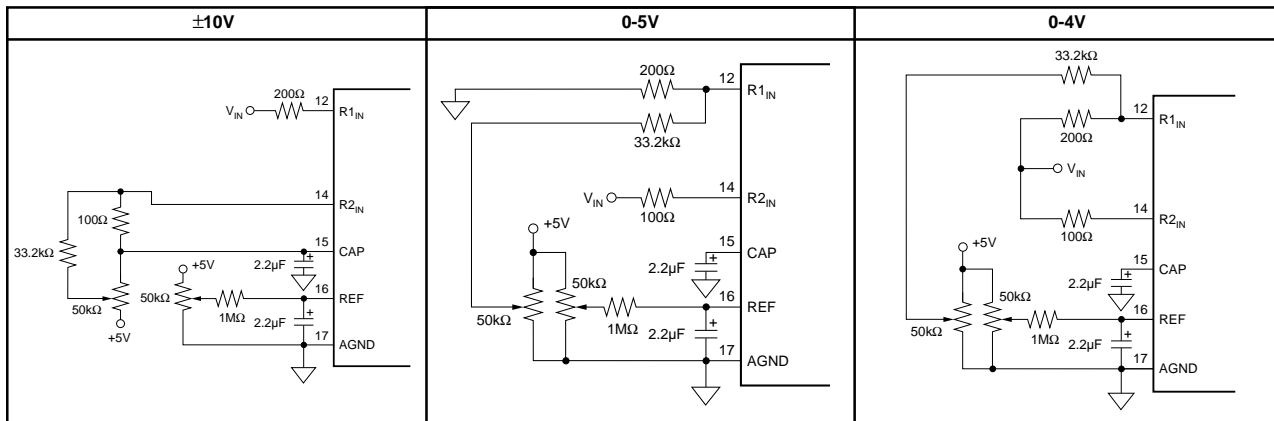
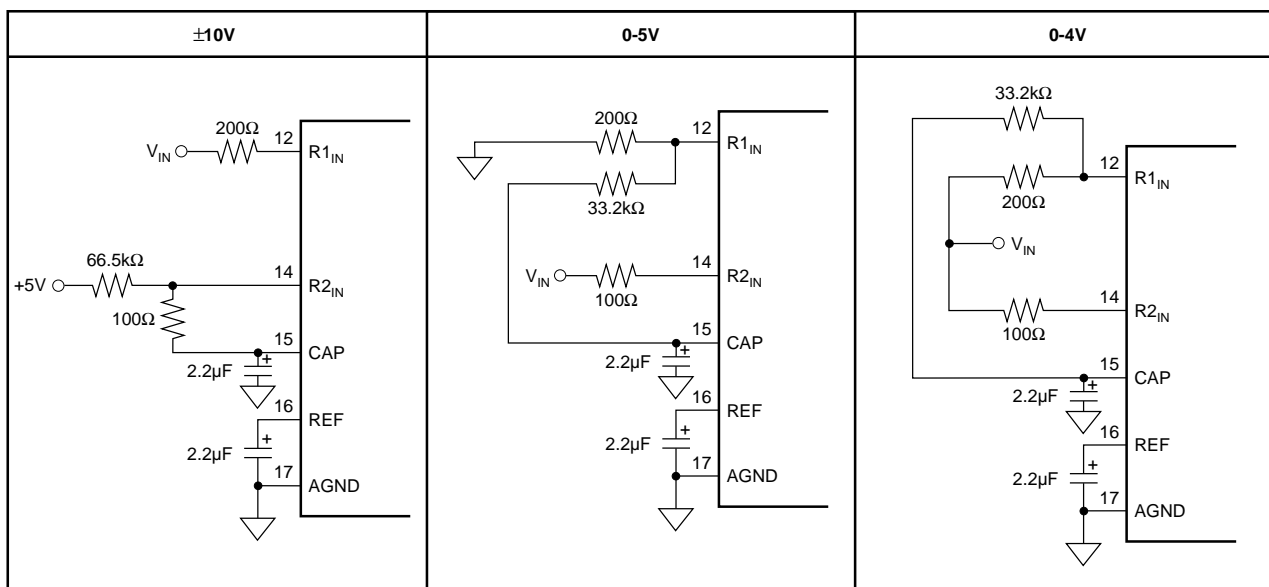
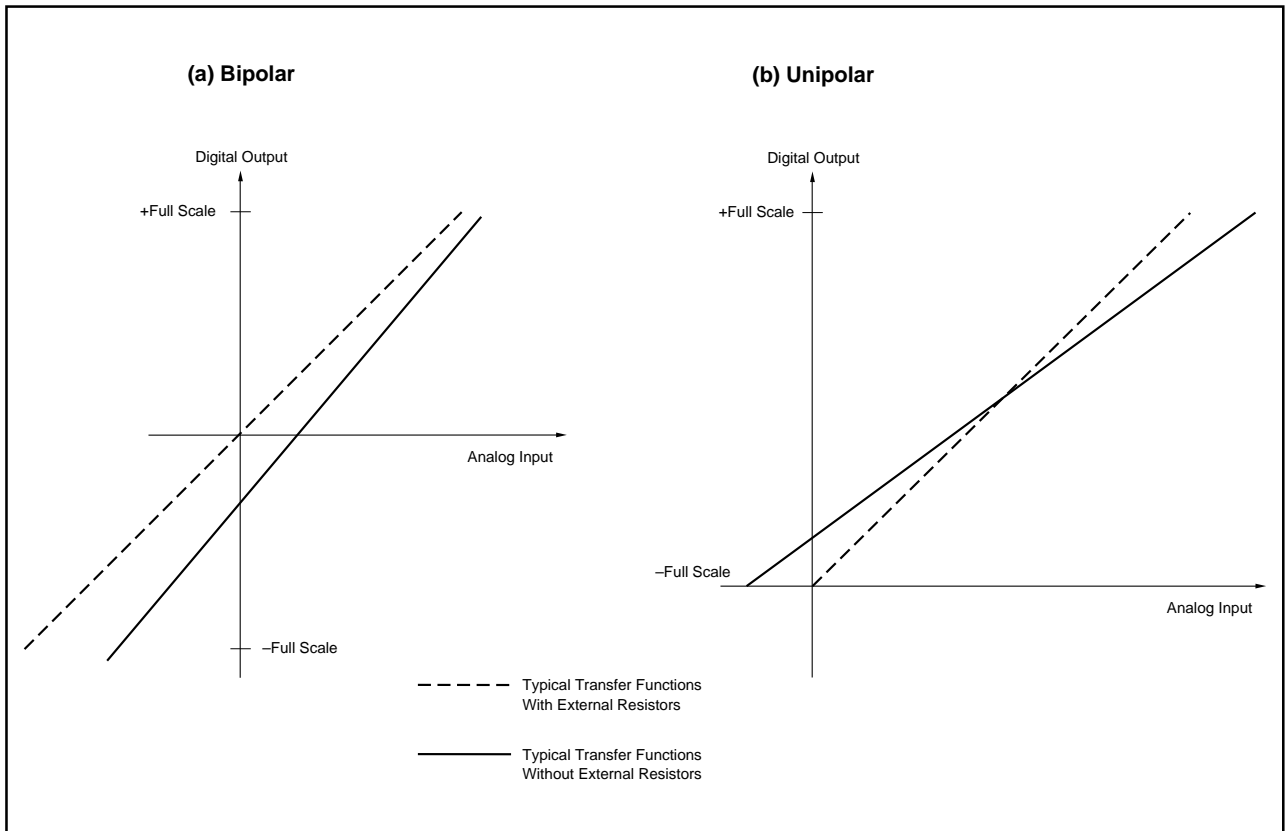

FIGURE 3a. Circuit Diagrams (With Hardware Trim).
FIGURE 3b. Circuit Diagrams (Without Hardware Trim).
FIGURE 4. Typical Transfer Functions With and Without External Resistors.
$T_A = +25^\circ\text{C}$ ,  $f_S = 40\text{kHz}$ ,  $V_{\text{DIG}} = V_{\text{ANA}} = +5\text{V}$ , using internal reference and fixed resistors shown in Figure 3b, unless otherwise specified.
The ISO806 offers three input ranges: standard  $\pm 10V$  and 0-5V, and a 0-4V range for complete, single supply systems. Figures 3a and 3b show the necessary circuit connections for implementing each input range and optional offset and gain adjust circuitry. Offset and full scale error(1) specifications are tested and guaranteed with the fixed resistors shown in Figure 3b. Adjustments for offset and gain are described in the **Calibration** section of this data sheet.
The input impedance, summarized in Table II, results from the combination of the internal resistor network shown on the front page of the product data sheet and the external resistors used for each input range (see Figure 4). The input resistor divider network provides inherent overvoltage protection guaranteed to at least  $\pm 25V$ .
To calibrate the offset and gain of the ISO806 in hardware, install the resistors shown in Figure 3a. Table VI lists the hardware trim ranges relative to the input for each input range.
To calibrate the offset and gain in software, no external resistors are required. However, to get the data sheet specifications for offset and gain, the resistors shown in Figure 3b are necessary. See the **No Calibration** section for more details on the external resistors. Refer to Table VII for the range of offset and gain errors with and without the external resistors.
See Figure 3b for circuit connections. Note that the actual voltage dropped across the external resistors is at least two orders of magnitude lower than the voltage dropped across the internal resistor divider network. This should be considered when choosing the accuracy and drift specifications of the external resistors. In most applications, 1% metal-film resistors will be sufficient.
The external resistors shown in Figure 3b may not be necessary in some applications. These resistors provide compensation for an internal adjustment of the offset and gain which allows calibration with a single supply. Not using the external resistors will result in offset and gain errors in addition to those listed in the electrical specifications section. Offset refers to the equivalent voltage of the digital output when converting with the input grounded. A positive gain error occurs when the equivalent output voltage of the digital output is larger than the analog input. Refer to Table VII for nominal ranges of gain and offset errors with and without the external resistors. Refer to Figure 4 for typical shifts in the transfer functions which occur when the external resistors are removed.
TABLE VI. Offset and Gain Adjust Ranges for Hardware Calibration (see Figure 3a).